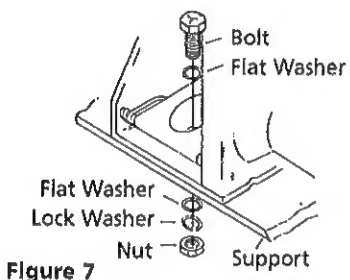

Figure 7
The winch can be mounted in a horizontal or vertical position (Figure 7). Do not mount the winch where there would be the possibility of it being submerged in water. The winch is weather resistant but not waterproof.
Drill two 7/16" (12mm) diameter holes with center lines exactly 3-11/16" (93.66mm) apart (Figure 7) in the support chosen for the winch. Attach the winch to the support with two (2) 3/8-16 Hex Head Bolts. Be sure the hardware is assembled as shown. Tighten the hardware to 35 lb. ft. torque.